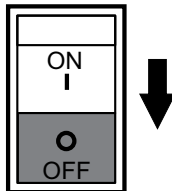

Figure 17. Main Circuit Breaker (OFF)
2. **NEVER** start the engine with the main circuit breaker in the **ON** position. Always place main circuit breaker (Figure 17) in the **OFF** position before starting.